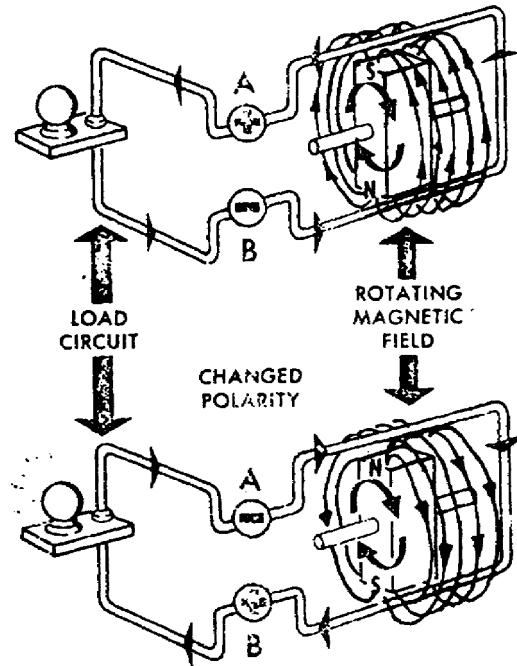

Figure 18. Rotating field.
a. In the review of electrical fundamentals, it was observed that a voltage will be induced in a conductor when a magnetic field is moved across the conductor. For example, consider a bar magnet with its magnetic field rotating inside a loop of wire (fig 18). With the magnet rotating as